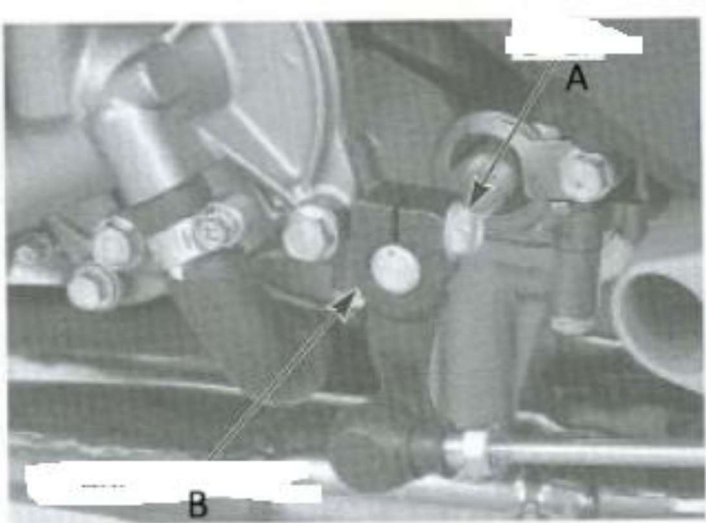

Figure 12
- 7. Install the screw (Figure 12, item A) to attach the gear shift arm (item B) to the engine.